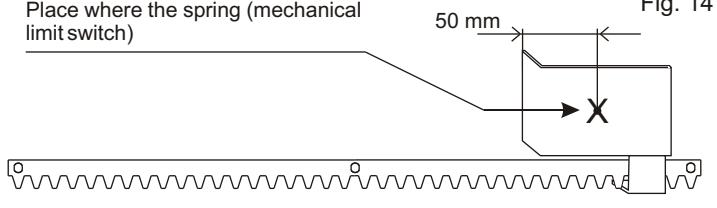
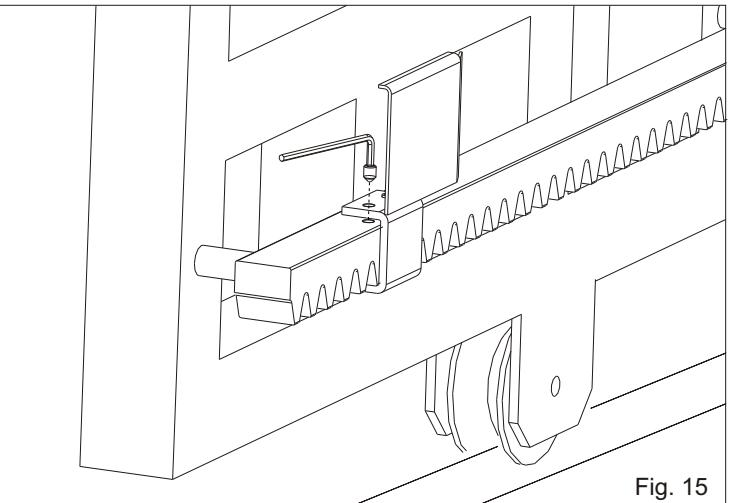

Fig. 14
Fig. 15
- Place the limit switch plate on the gear rack to have the limit switch (spring in case of mechanical limit switch (Fig. 13)) in correspondence with the X point which is 50 mm from the folded side of the plate (Fig. 14) and fix it with the supplied screws (Fig. 15).
- Place the limit switch plate on the gear rack to have the limit switch in correspondence with the X point which is 50 mm from the folded side of the plate (Fig. 14) and fix it with the supplied screws (Fig. 15).